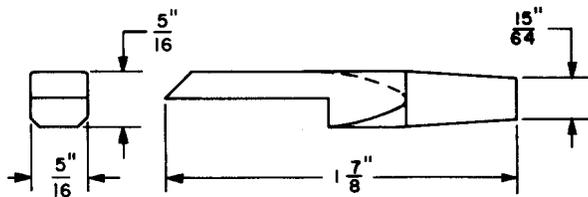

Fig. 3—561A Straight Tip Tool
2.03 **561A:** The 561A straight tip tool (Fig. 3) is used on all types of relays. It is used in conjunction with the 510C tool.